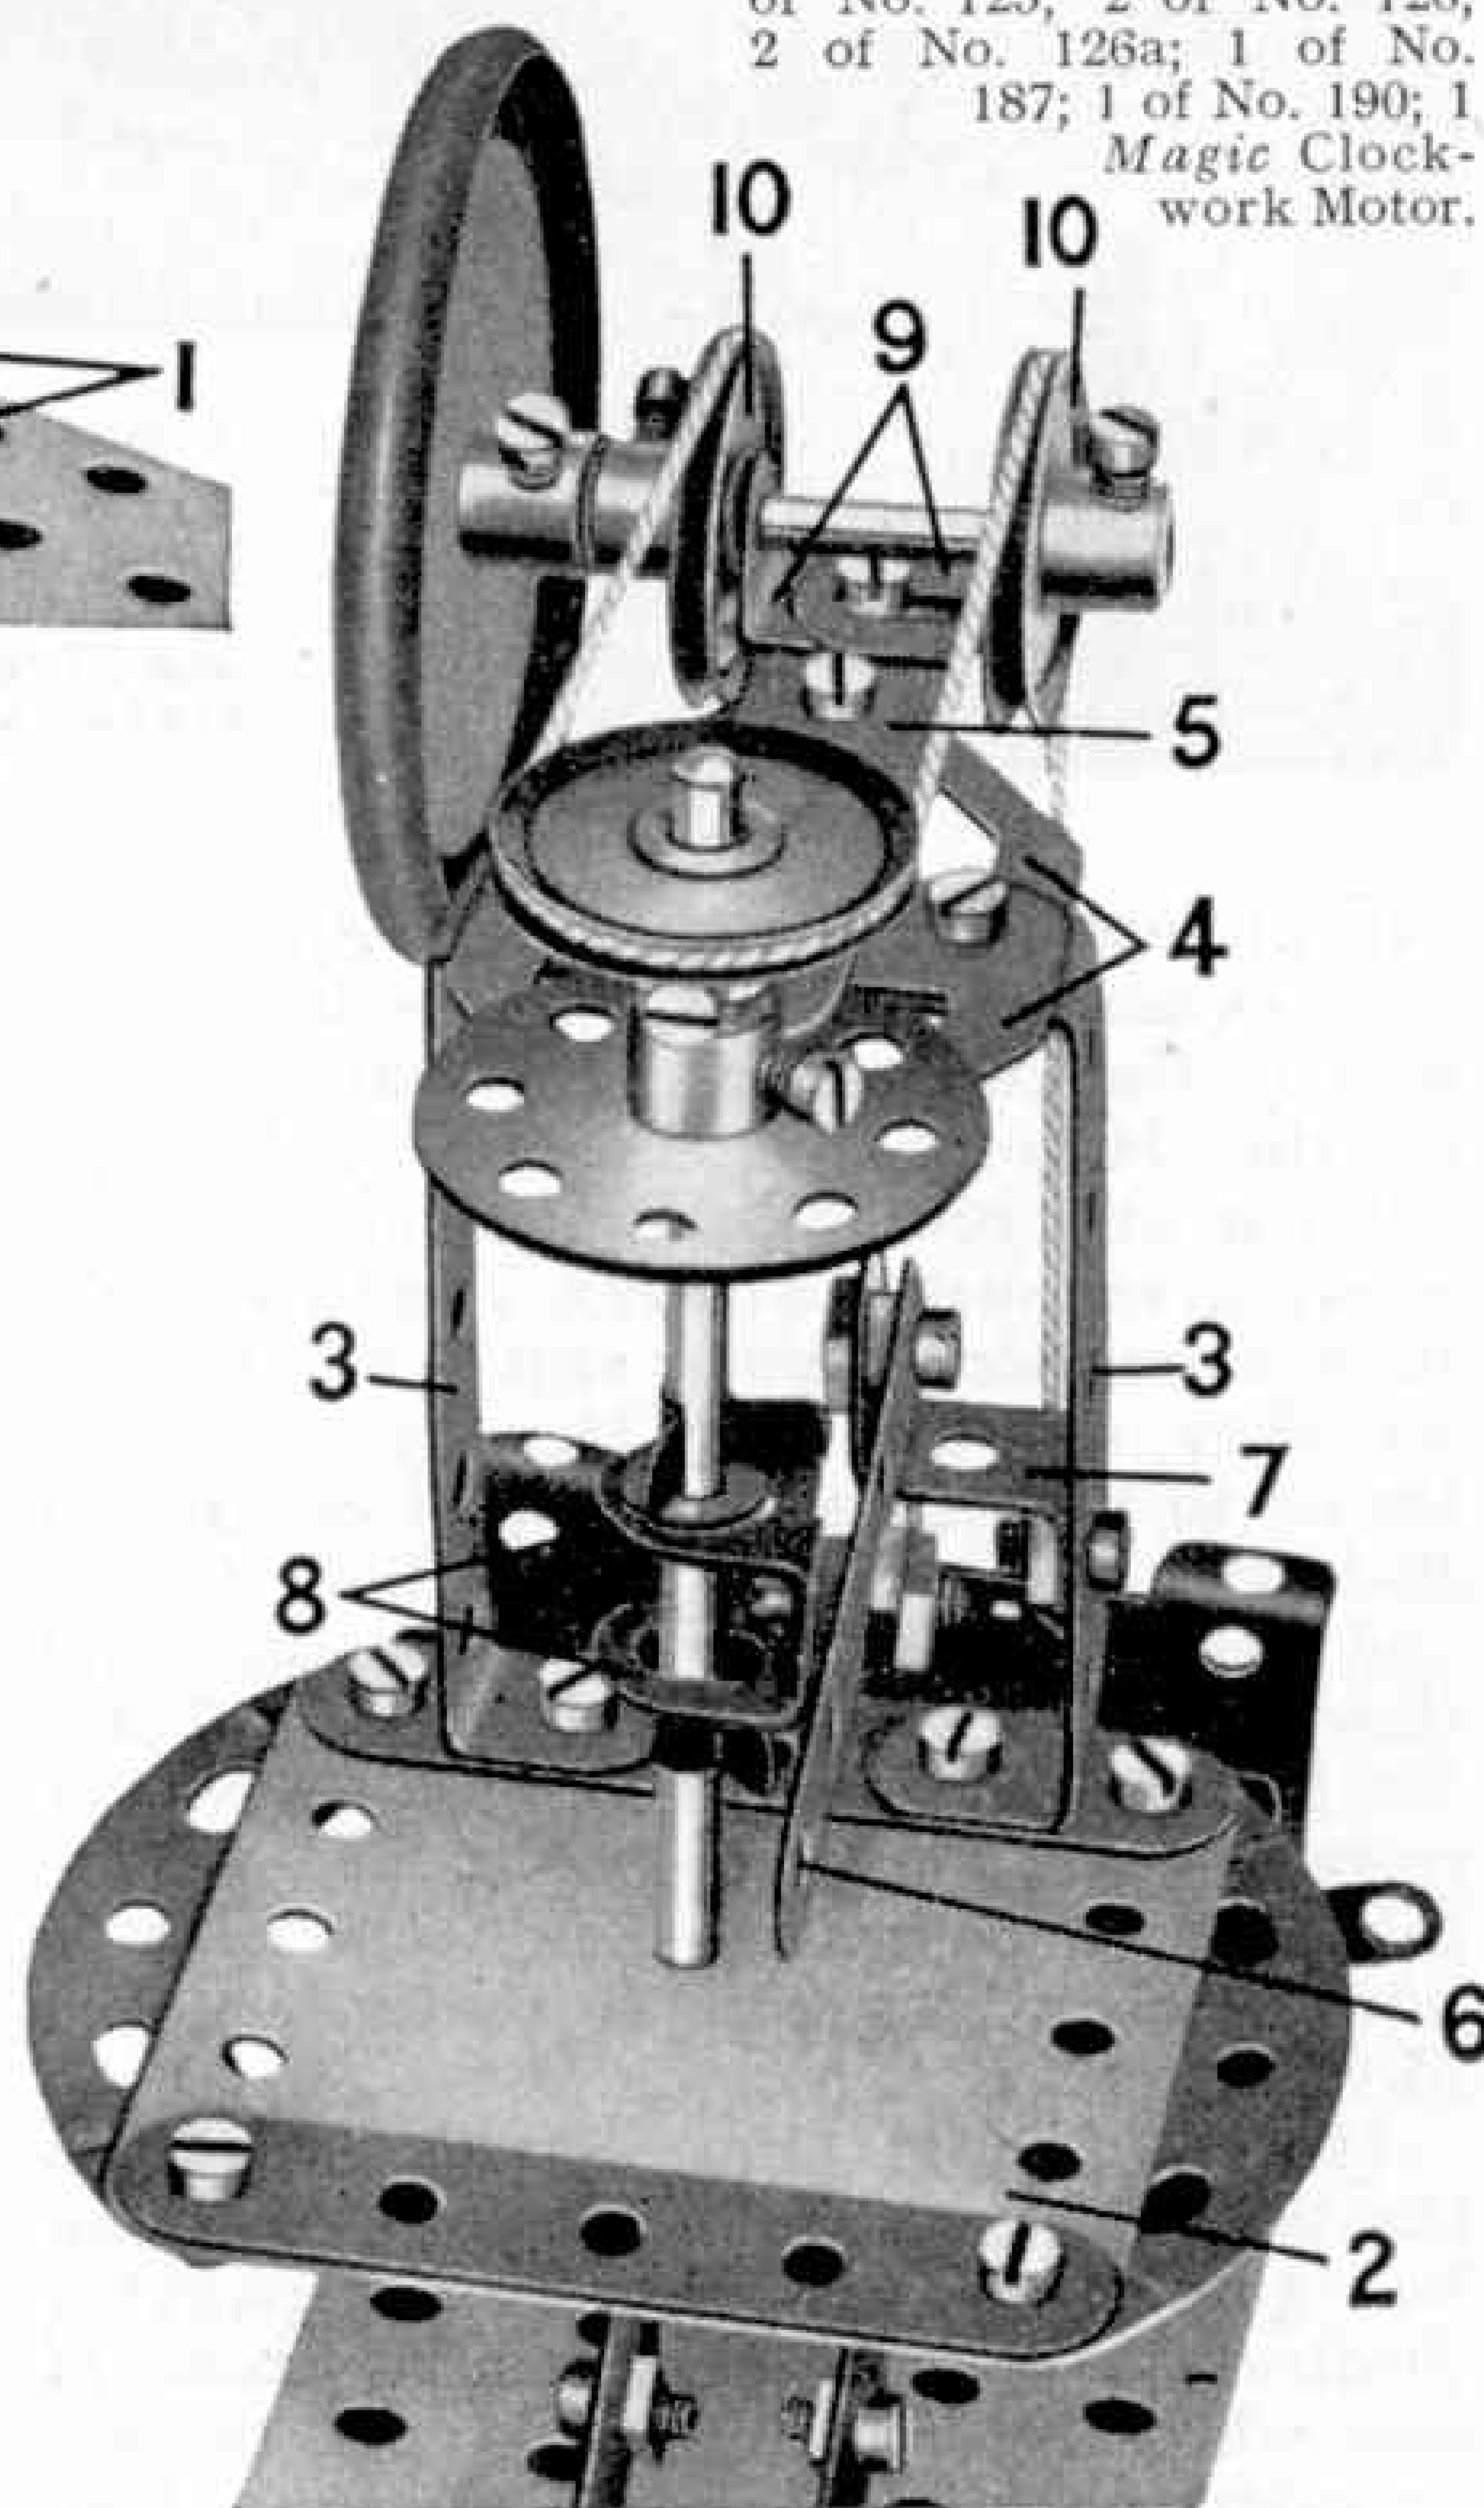

Fig. 3. A close-up picture of the drill head, showing the arrangement of the belt drive and the method of pivoting the drill control lever.
The drill shaft is a 3½" Rod, and it is free to turn in the boss of a Bush Wheel bolted to the Strip (5). The boss of the Bush Wheel is placed over the hole at the pointed end of one of the Flat Trunnions (4). For the purpose of raising and lowering the drill spindle a lever marked (6) is provided. This lever is a 2½" Strip and it is *lock-nutted* to the ½" Reversed Angle Bracket marked (7), which is bolted to one of the Double Angle Strips (3). Now bolt two Angle Brackets tightly together by a nut on a ⅜" Bolt. These are numbered 8 in Fig. 3. Pass the ⅜" Bolt through the centre hole of the lever (6) and fit it with *lock-nuts*. Make sure that the Bolt is able to pivot freely. Then pass the drill shaft through the slotted holes of the Angle Brackets (8), and prevent it from sliding by placing on